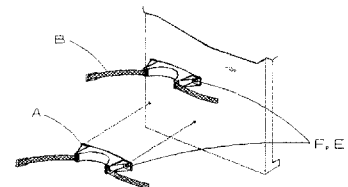

figure 3. ER-2000
For ER-2000: Attach Bracket (A) to ER-2000 cart, using 1/4-20 X 1/2" screw (F) and washer (E) tighten with a 3/8" wrench. See figure 3.